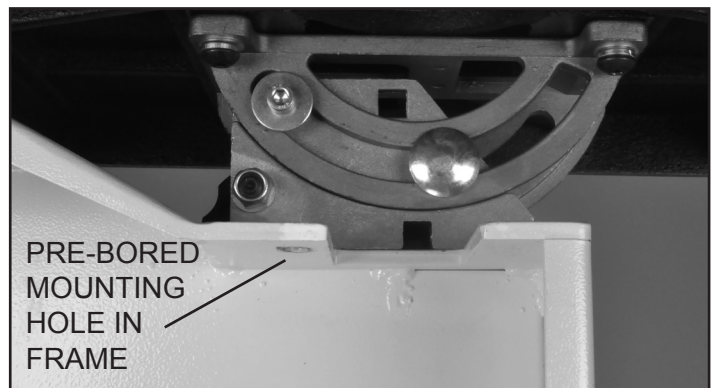

FIGURE 4
5. With the old, lower blade guide and guard assembly removed, make sure that the lower frame area and pre-bored hole(s) is clean of any sawdust or residue left from past saw usage. Figure 4.